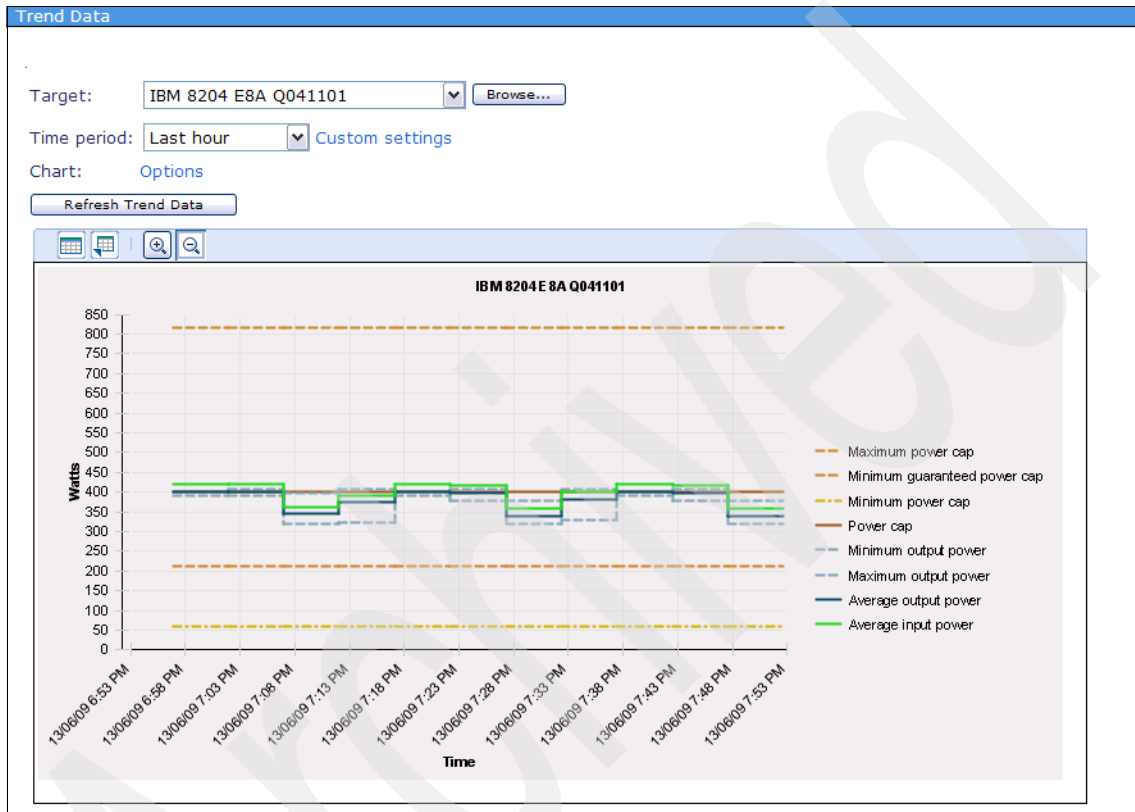

Figure 7-75 Removing a policy - 7
8. If you look at the trend data for the systems that have had the policy removed you notice that, although the policy has been removed, the policy setting is still active. An example is shown in Figure 7-75 for one of the systems that we removed the policy from in the preceding steps. The power cap is still set to the policy setting of 400 watts.